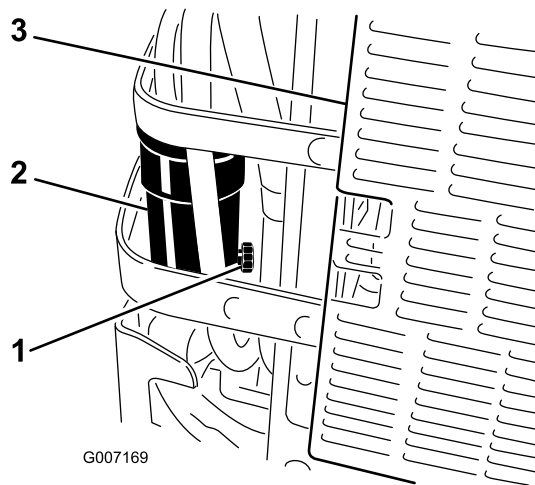

Figure 45
6. Open the drain valve on the water separator approximately one turn to allow water and other contaminants to drain (Figure 45).
7. Close the drain valve when only diesel fuel comes out (Figure 45).